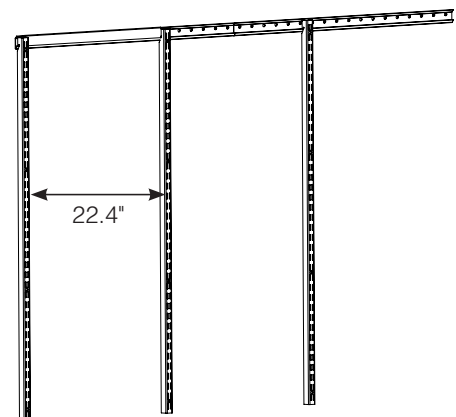

Figure 2
**STEP 4:** Starting from one side of the closet, hang a wall standard on the hang rail and use a hang rail cover to create the proper space between that and the next wall standard. Follow this method until all the wall standards are hanging from the hang rail (**Figure 2**).